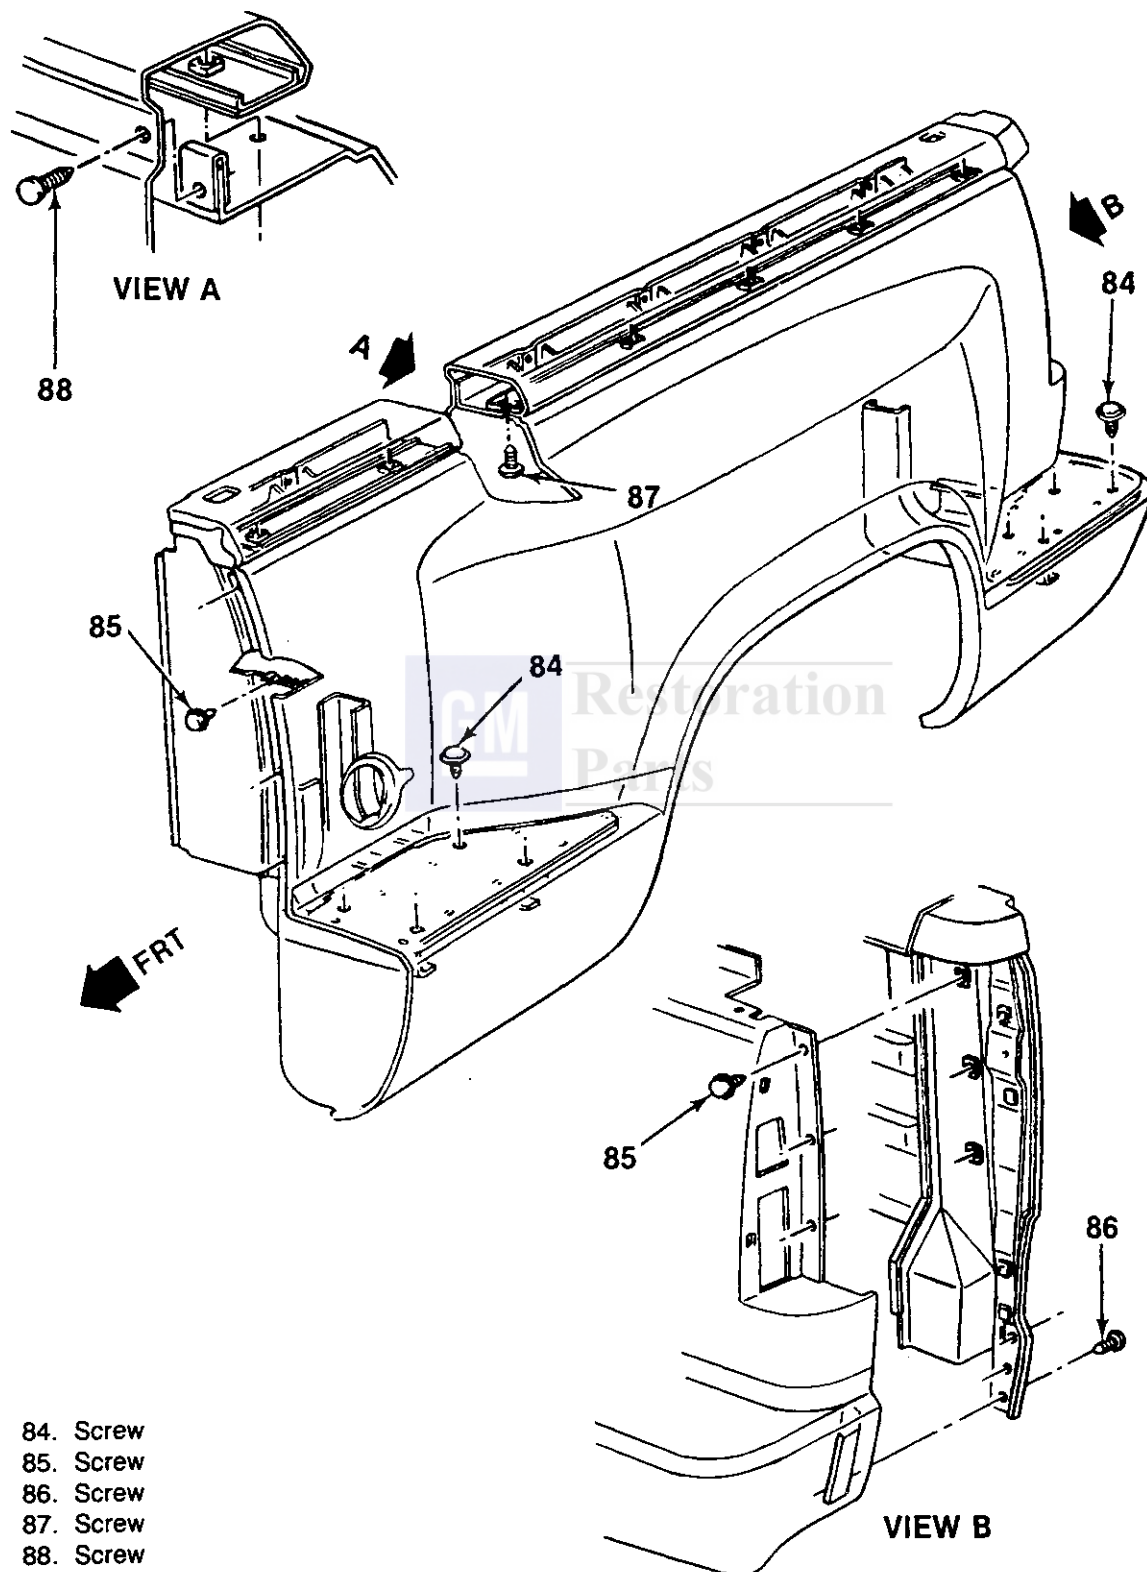

Figure 13—Stepside Fender
4. Fender to support bolts (figure 13).